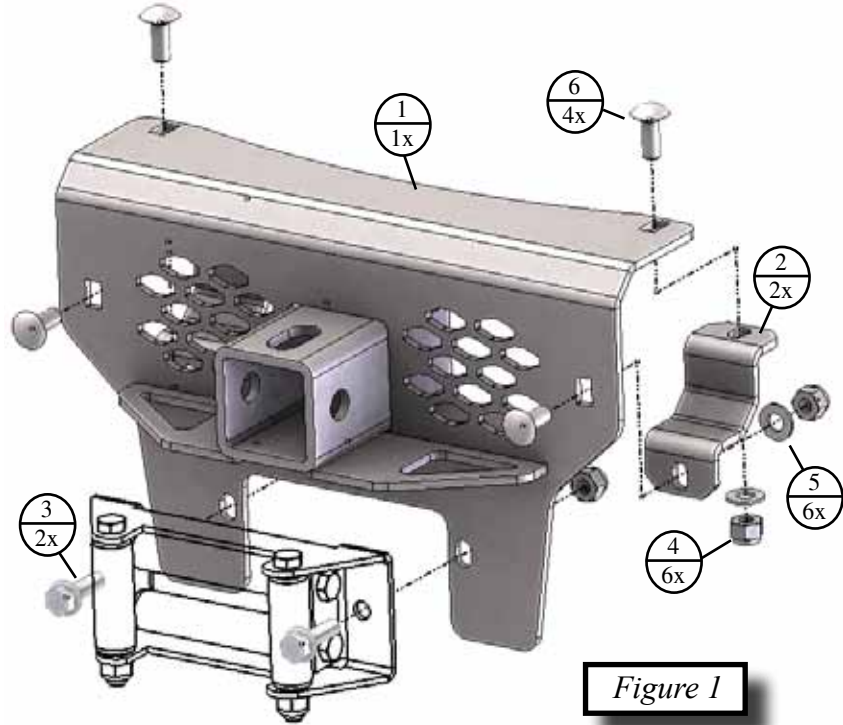

Figure 1
2. Set the receiver mount on the front of the bumper and attach it setting the brackets (2) around the bumper tubing and bolt down loosely & evenly using the four 3/8 carriage bolts, nuts and washers. As shown in Figures 1 & 4.